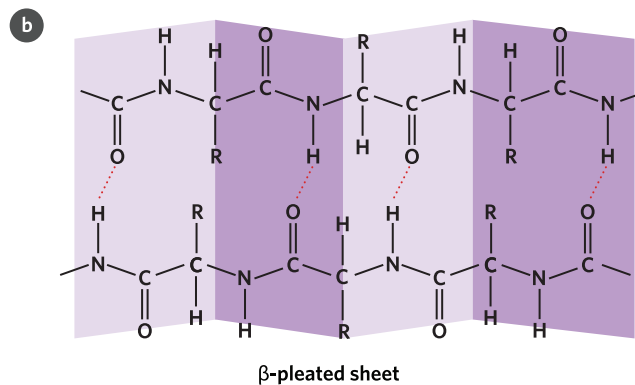

Figure 2.2 Hydrogen bonds (dotted red lines) create the secondary structure (b) β -pleated sheet.
- A β -pleated sheet is formed by linking two or more adjacent sections of the polypeptide by hydrogen bonds between the oxygen in one peptide bond and the hydrogen in the other peptide bond (figure 2.2).